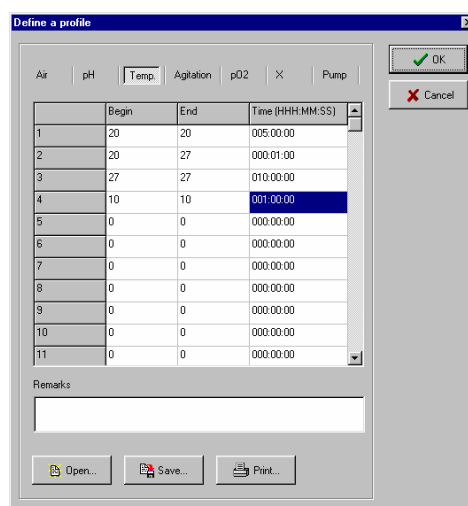

Figure 3
- Profiles on all the set points like temperature, pH, pO_2 , air flow rate, agitation, parameter X or feed with a peristaltic pump (figure 3)